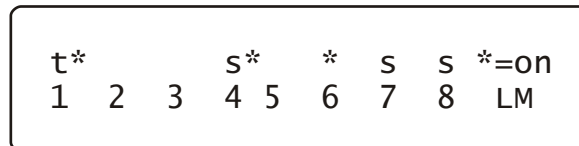

Figure 4. IOM/2 Status display
The status display (Figure 4) is the starting point for viewing and/or modifying the IOM/2’s information.
- An asterisk (*) above an output number means that the output status is on (as noted in the upper right corner of the display). In Figure 4, Outputs 1, 4, and 6 are on.
- An “s” above an output number indicates that a load is in scheduled on mode. If there is no “s,” the load is in scheduled off mode. In Figure 4, Outputs 4, 7, and 8 are in Scheduled On mode.
- A “t” indicates that a timed override is in effect. A timed override is activated when the cursor is moved to an output and the asterisk key (*) on the keypad is pressed. The override stays in effect for the length of time defined in ESS32. An override can be canceled by moving the cursor to the output that is indicated as being in timed override and pressing the asterisk key on the keypad. In Figure 4, Output 1 is in timed override.